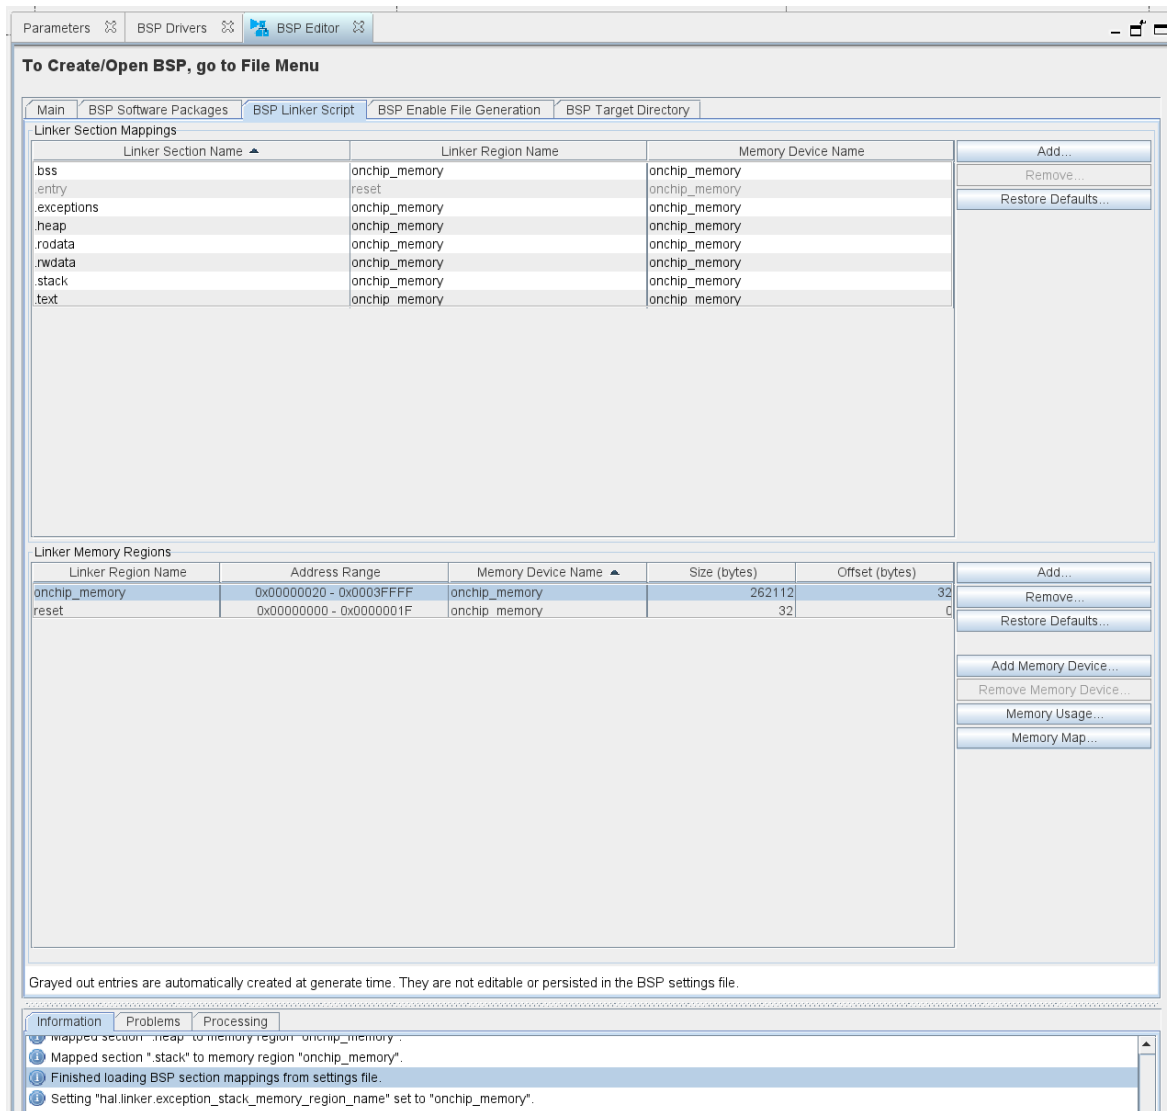

Figure 3-42 Configuring System Library Properties
data memory (.rodata), Read/write data memory (.rwdata), Stack memory and Program memory (.text), see Figure 3-42. These settings determine which memory is used to store the compiled executable program when the example **app** programs runs. In the **Main** tab, You can also specify which interface you want to use for stdio, stdin, and stderr. You can also configure build options to support C++, reduced device drivers, etc.
4. Choose **onchip_memory** for all the memory options in the **BSP Linker Script** tab. See Figure 3-42 for an example.